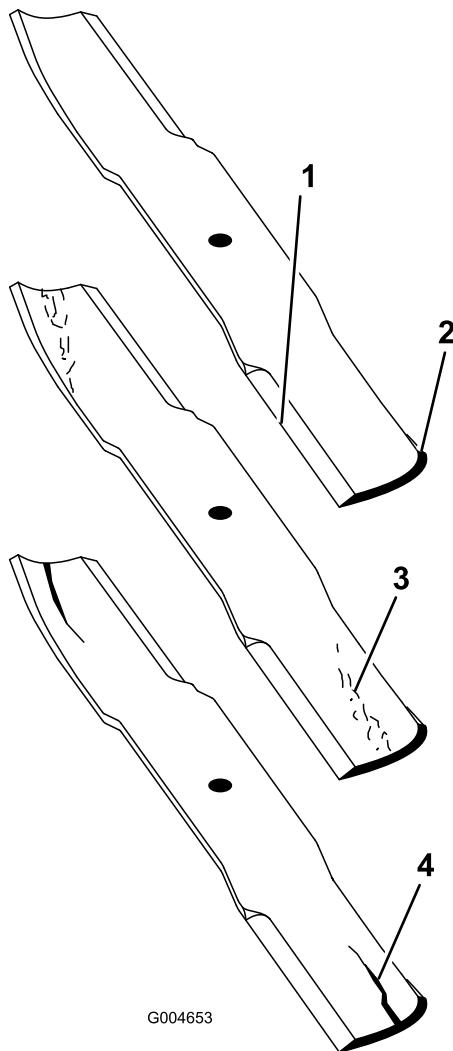

Figure 83
2. Examine the cutting ends of the blade carefully, especially where the flat and curved parts of the blade meet (Figure 83). Since sand and abrasive material can wear away the metal that connects the flat and curved parts of the blade, check the blade before using the mower. If wear is noticed (Figure 83), replace the blade.